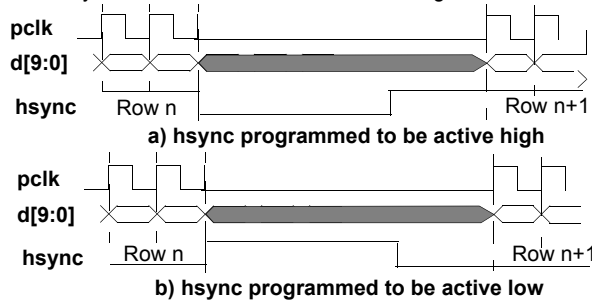

Figure 36. *hsync* in Pulse Mode
- Pulse mode should be used when the pixel clock, *pclk*, is programmed to operate in *data ready mode*. In pulse mode the *hsync* output pin will produce a pulse at the end of each row. The width of the pulse will be a minimum of four *pclk* cycles and its polarity can be programmed as shown in Figure 36. The *hsync* level is always synchronized to the active edge of *pclk*. The *hsync* pin is put into pulse mode by setting the *HsyncMode* bit of the *DVBUSCONFIG1* register to a logic 1. The active level of the *hsync* pulse is programmed using the *HsyncPol* bit of the *DVBUSCONFIG1* register.